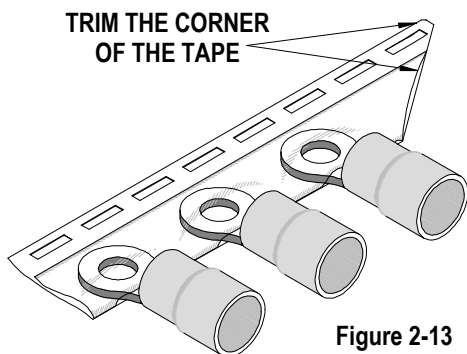

Figure 2-13
3. The tape will be easier to “start” in the track if the corner of the tape is trimmed as shown in Figure 2-13.